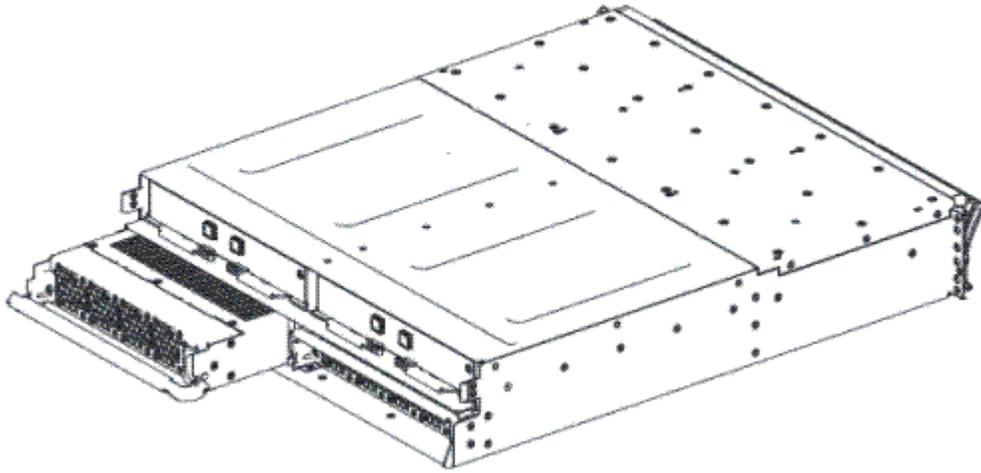

Figure 116. Removing the power supply unit from the left side of the expansion enclosure
5. Using the handle, gently slide the power supply out of the enclosure, as shown in Figure 116 on page 180.